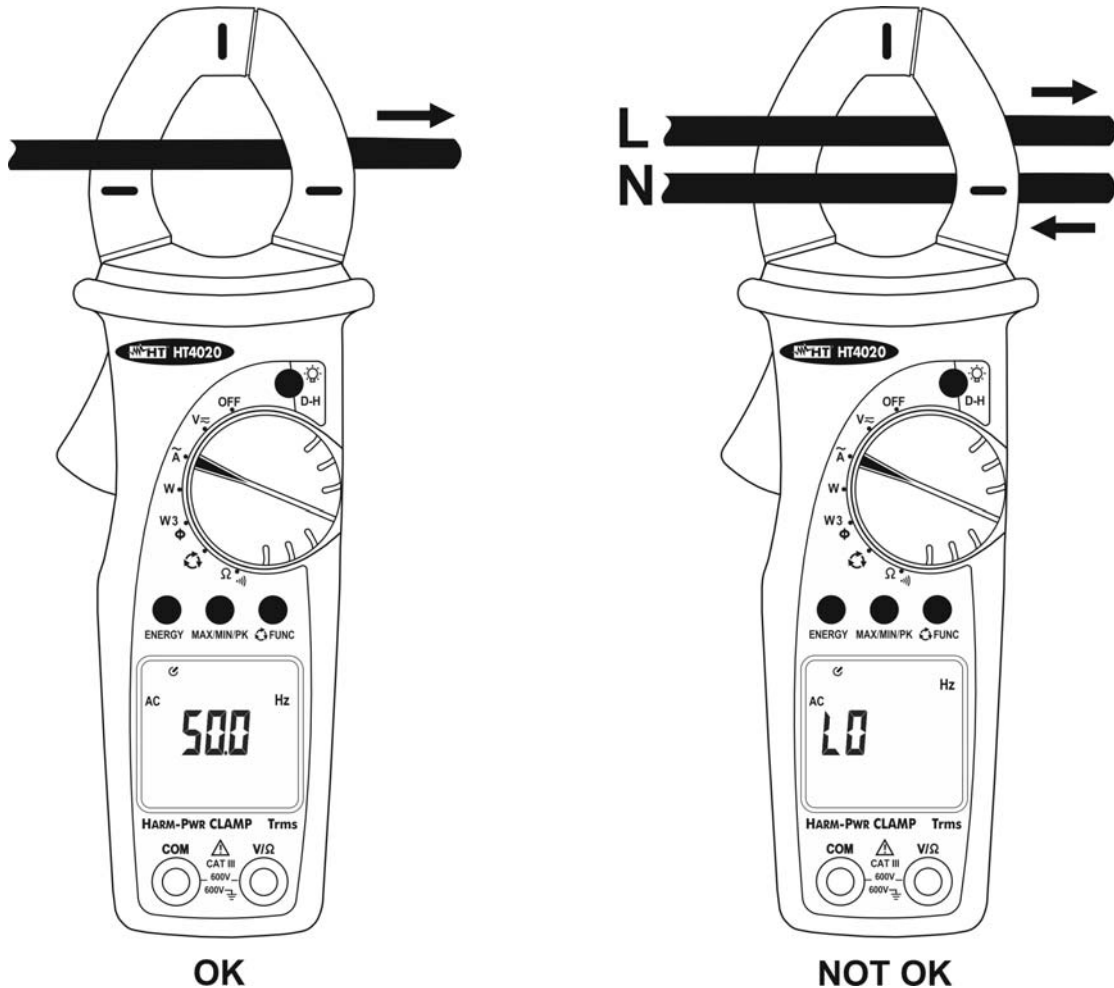

Fig. 9: Use of instrument for AC current frequency measurement
3. Open the jaws and clamp only one cable. Pay attention to the alignment marks (see § 4.1.2. and Fig. 9). The value of frequency is shown on display
4. The symbol "**O.L**" means that the measured voltage is higher than the full scale of the instrument. The symbol "**LO**" is shown in case of wrong connection of the instrument (see Fig. 9) or for measured values lower than the minimum range